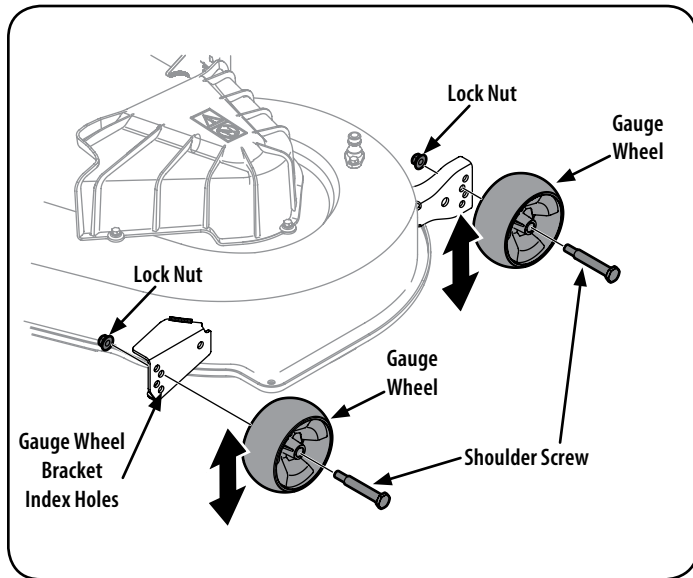

Figure 31
2. Remove the flange lock nut securing the front gauge wheel shoulder bolt to the deck. Remove the gauge wheel and shoulder bolt. Refer to Figure 31.